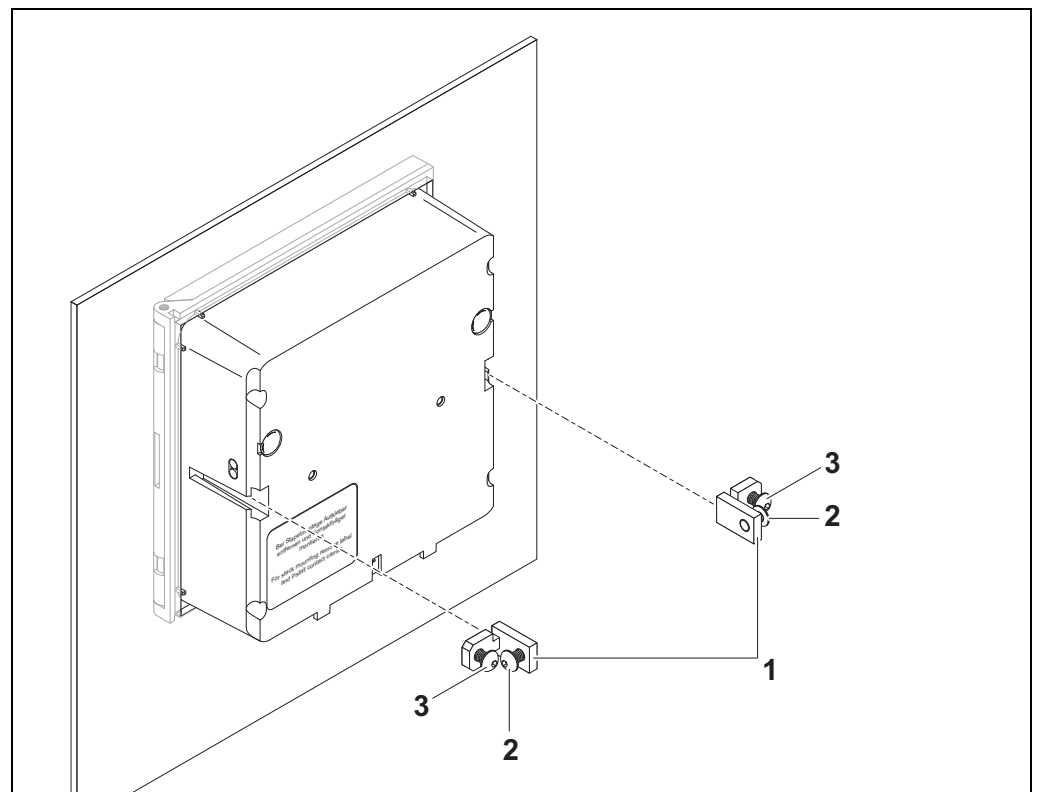

figure 3-25 Mounting the MIQ module on a panel
- 2 Slightly unscrew the screws (pos. 2 and 3) of the two angle brackets (pos. 1 in figure 3-25), but do not remove them.
- 3 Push in the two angle brackets - as shown in figure 3-25 - into the lateral guides of the MIQ module up to the stop.